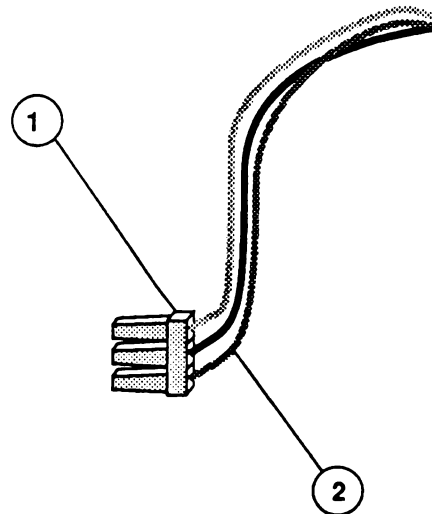

**FIGURE 7**
1. Locate the AC IN connector (Figure 7, #1) that you removed from the line filter board.
- a) Using small wire cutters, clip off the green AC IN ground wire close to the connector (Figure 7, #2).
1. Locate the green ground wire that you desoldered from the customer's filter board, and solder the wire to the replacement filter board at the solder point (Figure 7, #4) above the marking "OUT GND."